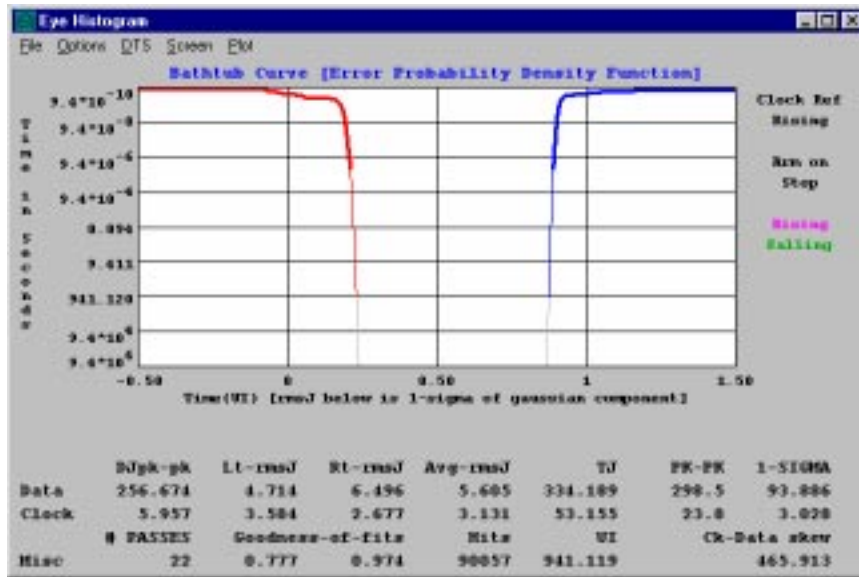

**Figure 6.6 Eye Histogram**
When a tail-fit is successfully completed the calculated tail-fits are plotted on top of the raw histogram, and values for the Deterministic Jitter, Random Jitter, Chi-square goodness of fit, and Total Jitter are displayed (See Figure 6.6). You can also view the resulting Bathtub Plot which is based on the PDF of the raw histogram with extrapolated tails calculated from the tail-fit (See Figure 6.7). The Total Jitter is extracted directly from the Bathtub Plot. Note: For Histogram panel only - The Total jitter Specification (UI) that is used for this calculation is User Defined, make sure that reasonable values are assigned for this as well as the Bit Error Probability.